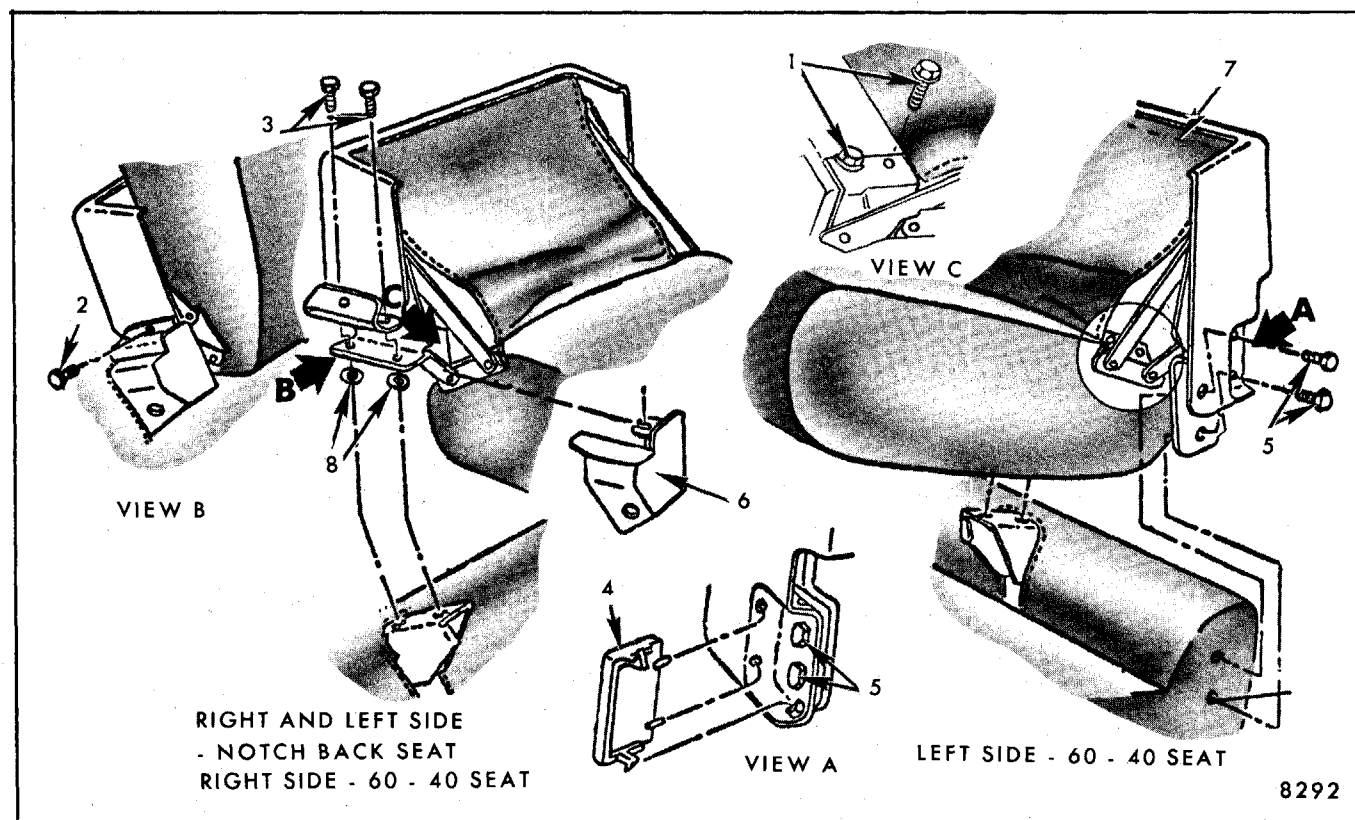

Fig. 9-58-Front Seat Center Armrest - Full Width Notch Down and 60-40 Seat - "A and E" Styles
2. Carefully pull curtain back sufficiently to remove screws securing center armrest to linkage, shown at "1" in Figure 9-58, and loosen outer screws securing curtain lower retainer to armrest.
3. Disengage armrest from support linkage and turn armrest upside- down on trim panel finishing cover. Remove staples, indicated at "7" in Figure 9-58, securing armrest curtain upper retainer; then remove armrest and curtain from armrest frame assembly.
Removal and Installation (Fig. 9-58)
2. Working between armrest and seat back, use a flat-bladed tool to carefully pry out serrated fastener, shown at "2" in Figure 9- 58, at both sides of armrest on notch down seat or right side on 60-40 seat. On left side of 60-40 seat, snap off plastic cover, shown at "4" in Figure 9-58.
3. Remove armrest attaching screws, shown at "3" in Figure 9-58, then remove armrest and linkage assembly from seat.
4. To install, reverse removal procedure. Prior to installing serrated fasteners, shown at "2" in Figure 9-58, check alignment and operation of armrest. Where necessary to align armrest with seat back(s), install washer(s), as required, between armrest support and support on seat.